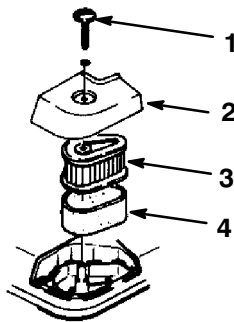

Figure 16
3. Remove the bolt that secures the air cleaner cover (Fig. 16).
4. Remove the cover and clean it thoroughly (Fig. 16).
5. Remove the foam pre-cleaner and wash it with a mild detergent and water, then blot it dry (Fig. 16).
7. Remove the paper air filter and discard it (Fig. 16).